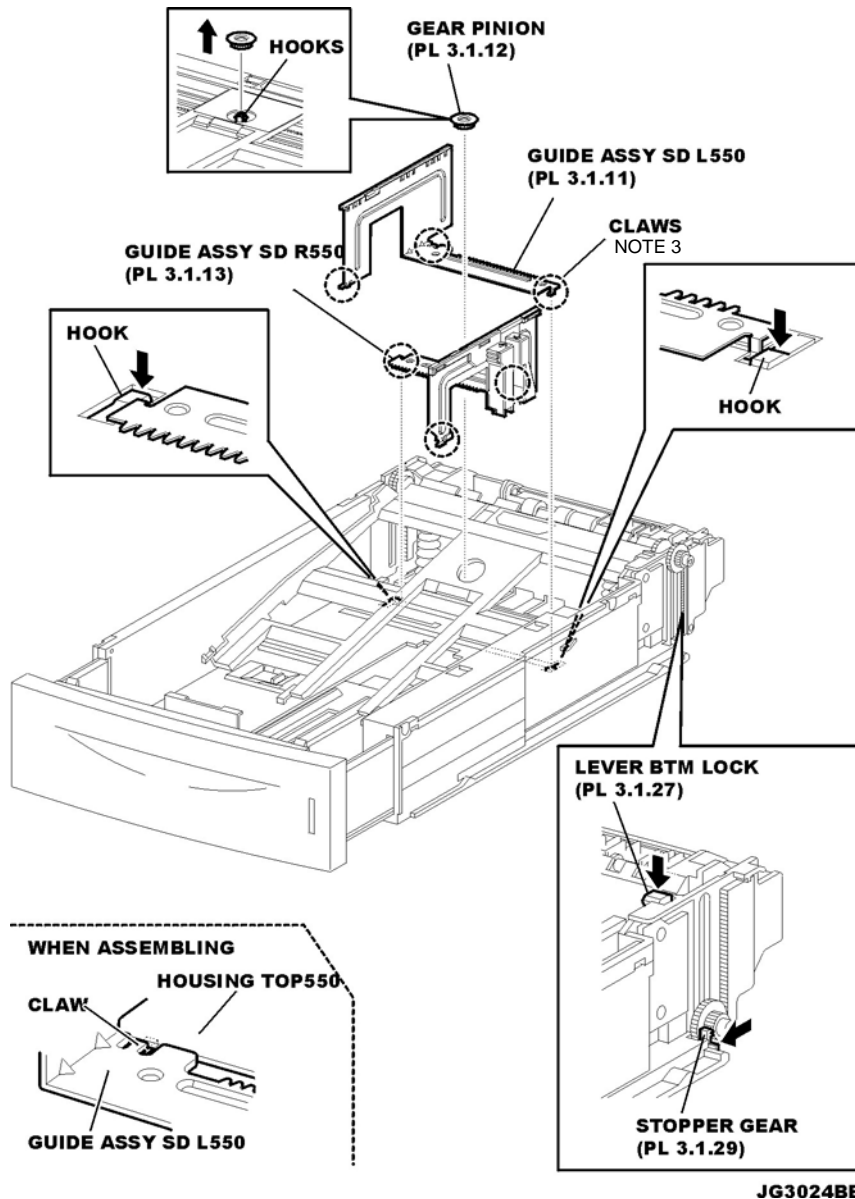

Figure 1. Plate Assembly BTM
- 3) Release the hooks securing the GEAR PINION (PL 12.3) to the HOUSING TOP 550 (PL 12.3), and remove the GEAR PINION (Figure 1).
- 4) While pressing down the lock of the STOPPER GEAR (PL 12.3), release the lock of the LEVER BTM LOCK (PL 3.1) to lift up the PLATE ASSEMBLY BTM (Figure 1).